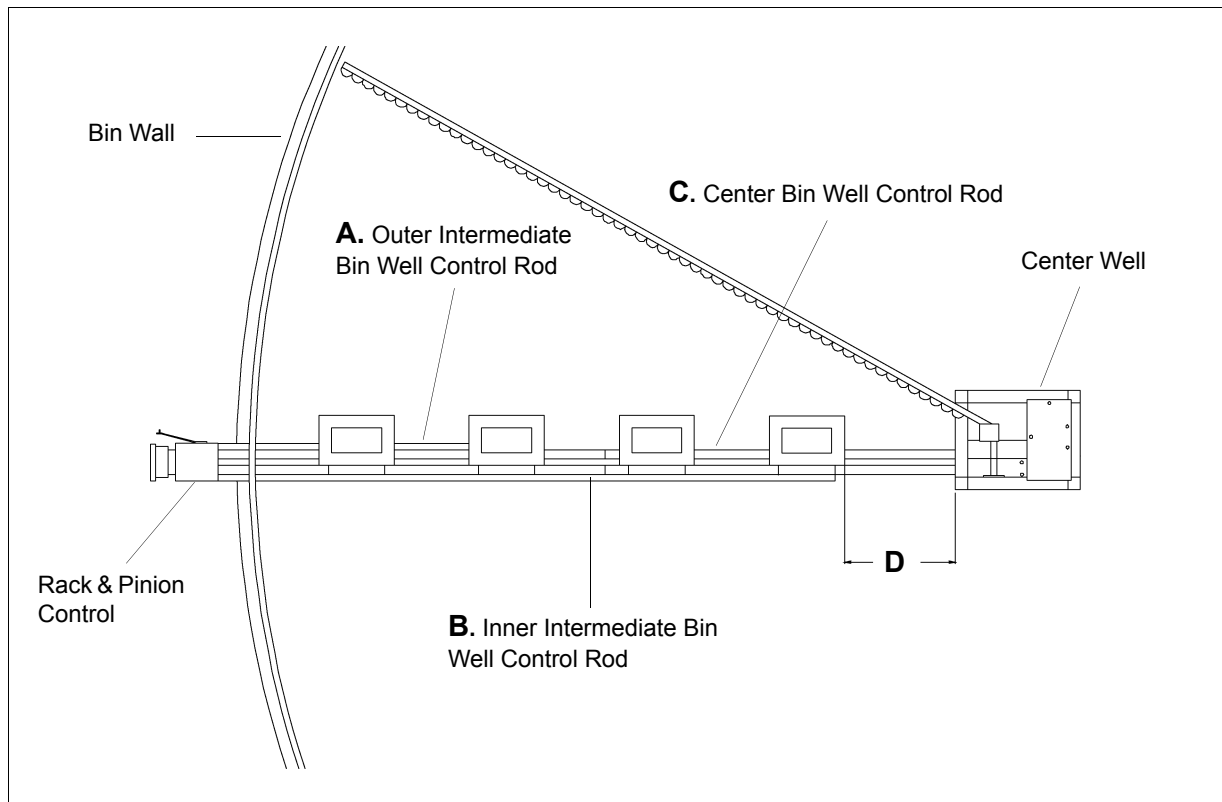

Figure 2B
1. Use the following illustration Figure 2B and the chart on Page 13 to determine the necessary pipe lengths.
The labels "A", "B", "C" and "D" correlate with the same labels *in Figure 2B on page 6.*